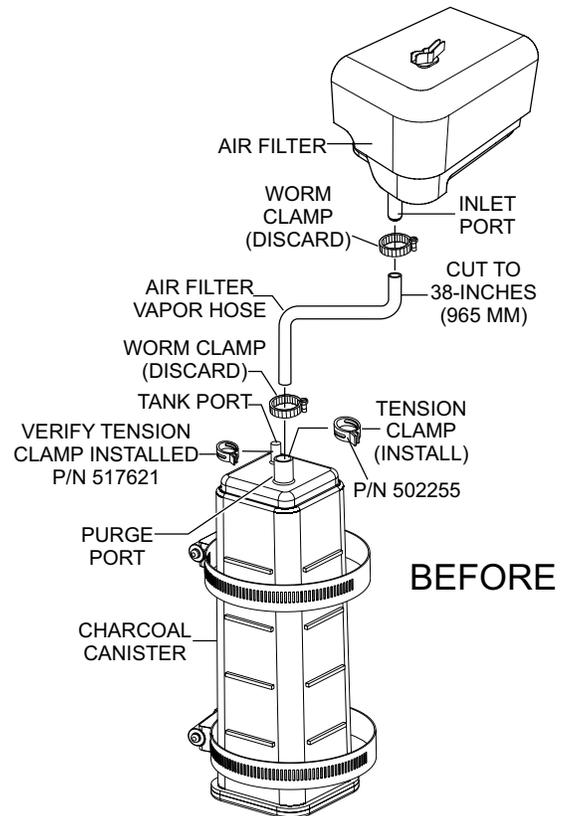

Figure 15. Air Filter Vapor Hose Components
1. At the charcoal canister (Figure 15) remove the air filter vapor hose and worm clamp from the charcoal canister **purge port**. Discard worm clamp.